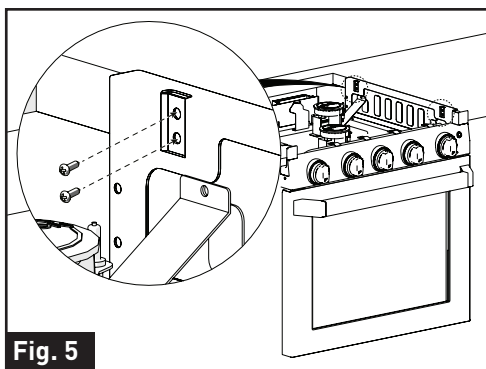

Fig. 5
5. Use four tapping screws on both left and right to secure the range oven onto the cabinet. (Fig. 5)